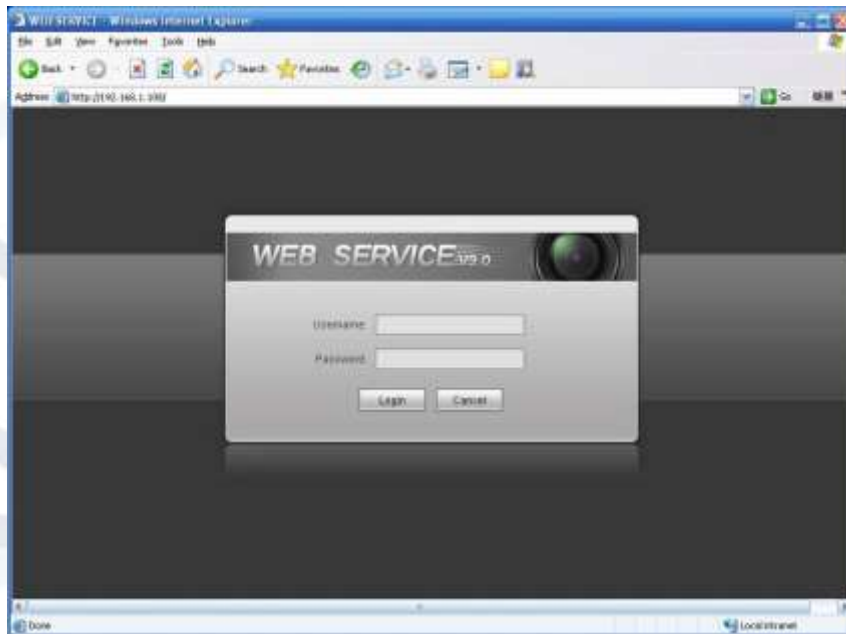

Figure 9-2 Web login
2. The login interface is shown as below. See Figure 9-2.